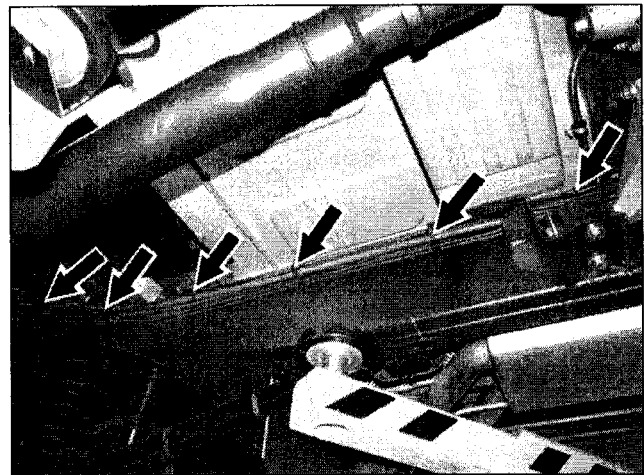

Figure 2 (not all cable ties are shown)
3. Open cable ties (arrows, Figure 2) securing lines along frame.